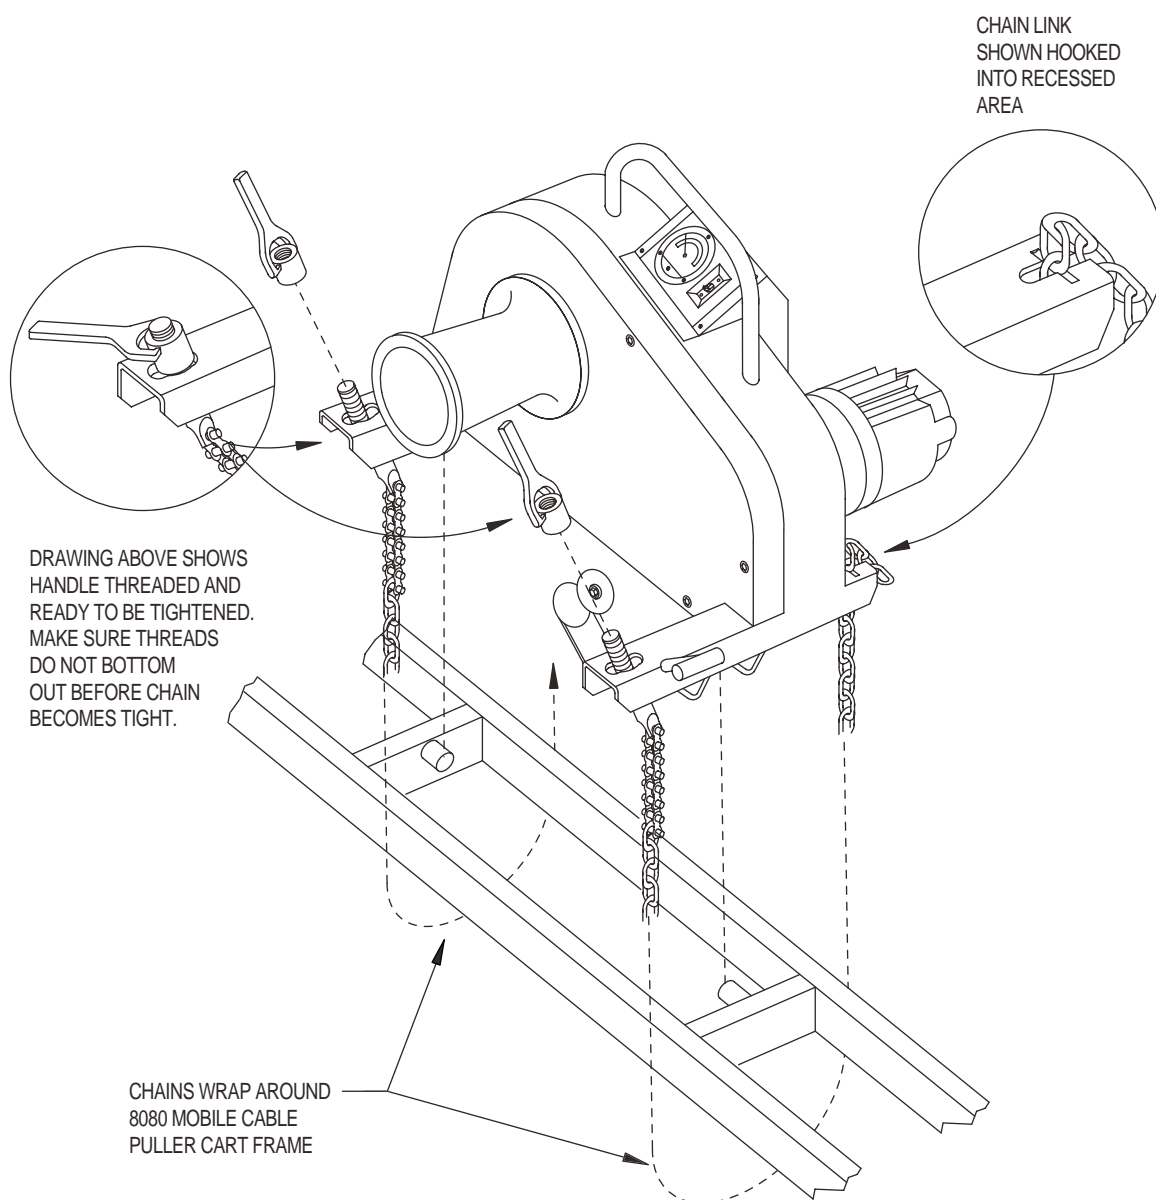

FIGURE 1
2. Wrap the chain around the 8080 Mobile Cart frame. ( See figure 1, on page 4. )
3. Pull the loose end of the mounting chain tight and hook the closest chain link into the recessed area. ( See figure 1, on page 4. )